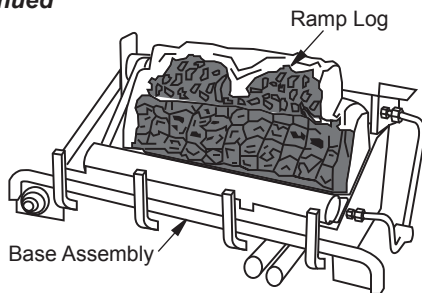

Figure 33 - Installing Log Set
1. Place fiber ramp-log in center on chassis as shown in Figure 33. The fiber ramp-log can be identified by its shape and much lighter weight when compared to the other logs.